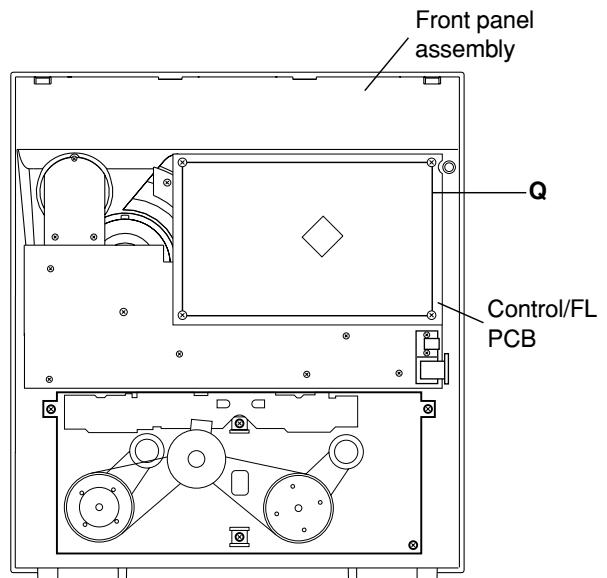

Fig.23
(See Fig.23 to 26)**
- Remove four screws **Q** retaining the front panel assembly. (Fig.23)